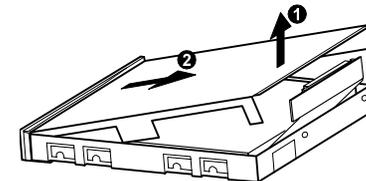

Figure 7-11. Removing the Bracket Top Cover
5. REMOVE THE TOP COVER FROM THE BRACKET BY LIFTING THE REAR END AND THEN DETACHING THE FRONT TAP.(Fig 7-11)
2. ATTACH THE TOP COVER TO THE BRACKET BY INSERTING THE FRONT TAB AT AN ANGLE AND THEN LOWERING THE REAR END.(ref fig 7-11)